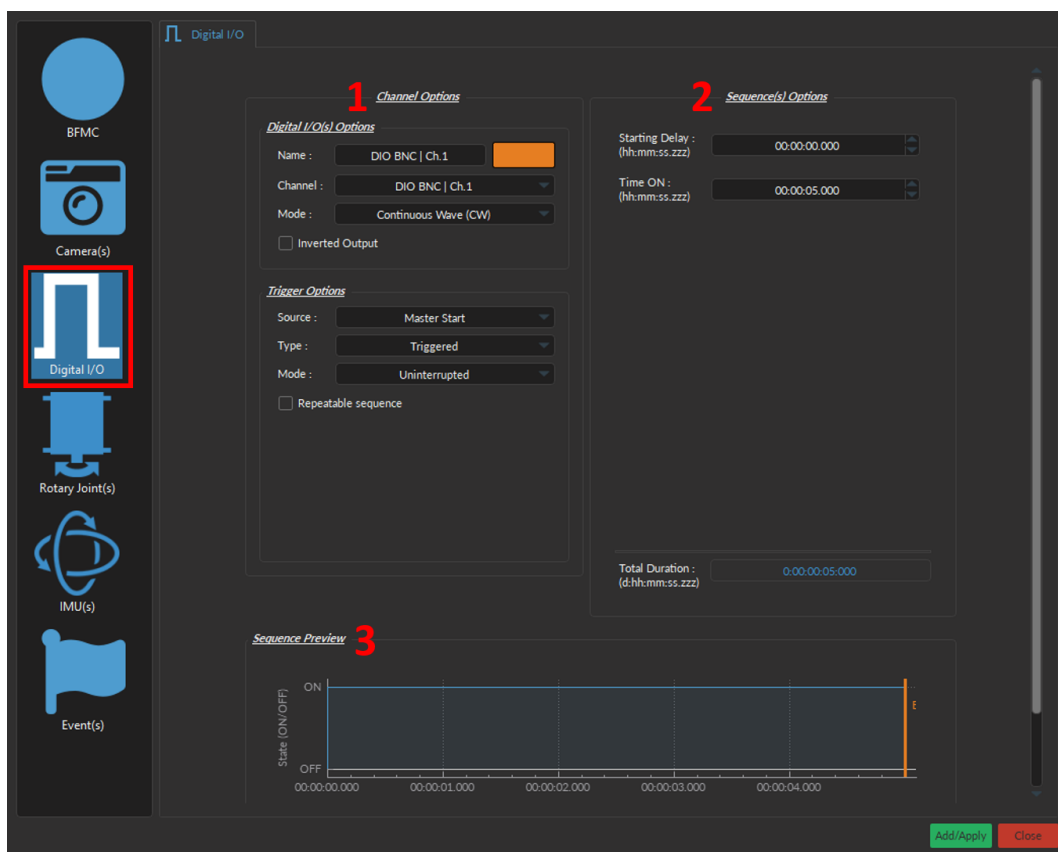

Figure 10.23: *Channel(s) configuration window, Digital I/O*
The *Channel(s) Configuration* window for the **Digital I/O** Channel is divided into three sections (Fig. 10.23): (1) the **Channel Options** (Section 10.4.2.1), (2) the **Sequence(s) Options** & (3) **Sequence Preview** (both treated in Section 10.4.2.2).